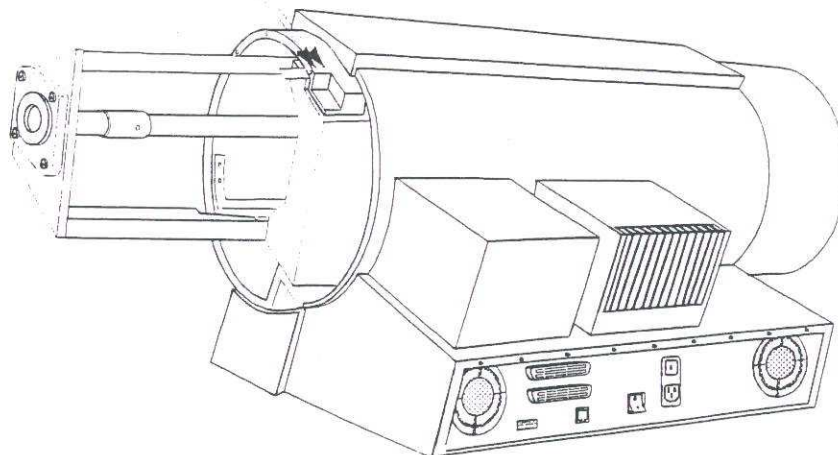

Fig. 2
- 11 • Locate the two holes on the top right hand side of the scanner, (fig. 2) and loosen the two 3 mm allen screws **A** securing the micro-switch bracket to the frame and adjust as necessary.